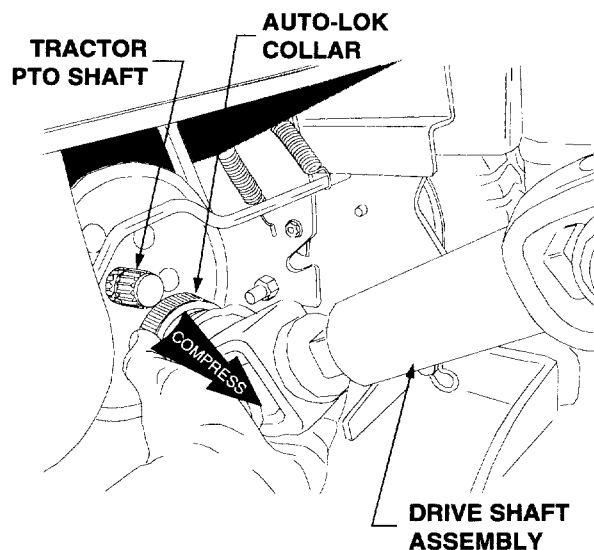

Figure 13
9. Pivot the female half shaft out of the cover slot and position so that it points rearward between the tractor frame. Refer to Figure 13.
11. Compress the auto-lok collar on the snow thrower drive shaft; then slide the shaft fully onto the PTO shaft of the tractor and release the auto-lok collar (See Figure 13). The drive shaft should lock onto the PTO shaft if properly connected. *NOTE: It may be necessary to slightly rotate the drive shaft to align the splines of the shafts.*
2. Compress the auto-lok collar of the snow thrower drive shaft and disconnect the shaft from the tractor PTO shaft. Refer to Figure 13.